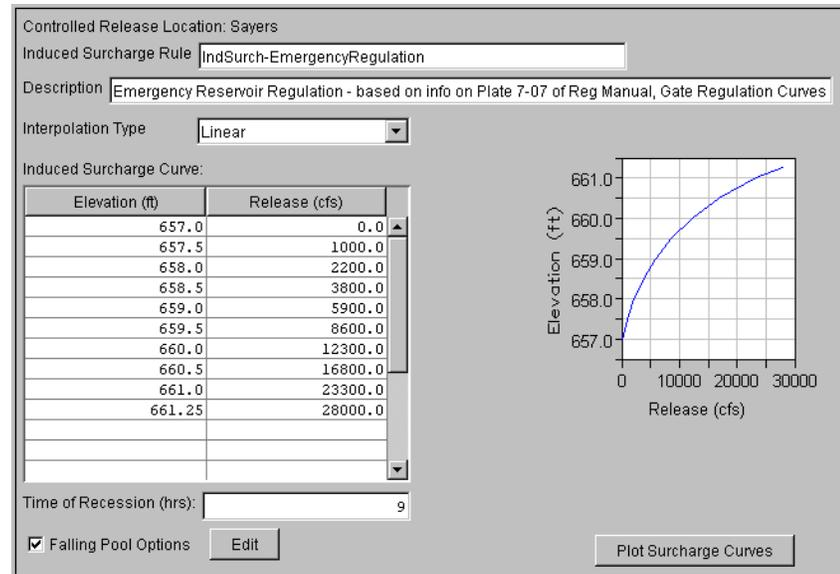

Figure 11.22 Reservoir Editor--Operations Tab: Induced Surcharge Rule
Within the **Induced Surcharge** rule editor (Figure 11.22), the **Induced Surcharge Curve**, **Time of Recession**, and **Falling Pool Options** determine the magnitude and duration of gate-regulated releases, and how emergency release should transition back to normal flood control releases. The mini-plot will reflect the **Elevation vs. Release** values you enter for the Induced Surcharge Envelope and can be viewed in full size when you double-click on it.
1. Highlight the appropriate rule in the operations tree to access the **Induced Surcharge** rule editor (Figure 11.22). The name and description of the rule will appear in the **Induced Surcharge Rule** and **Description** fields.